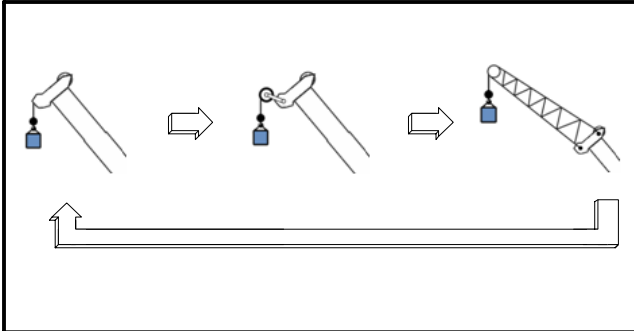

Figure 1-77
- b. Scroll through the available lifting points until the desired lifting point, for the winch selected, is displayed. Refer to Figure 1-77.